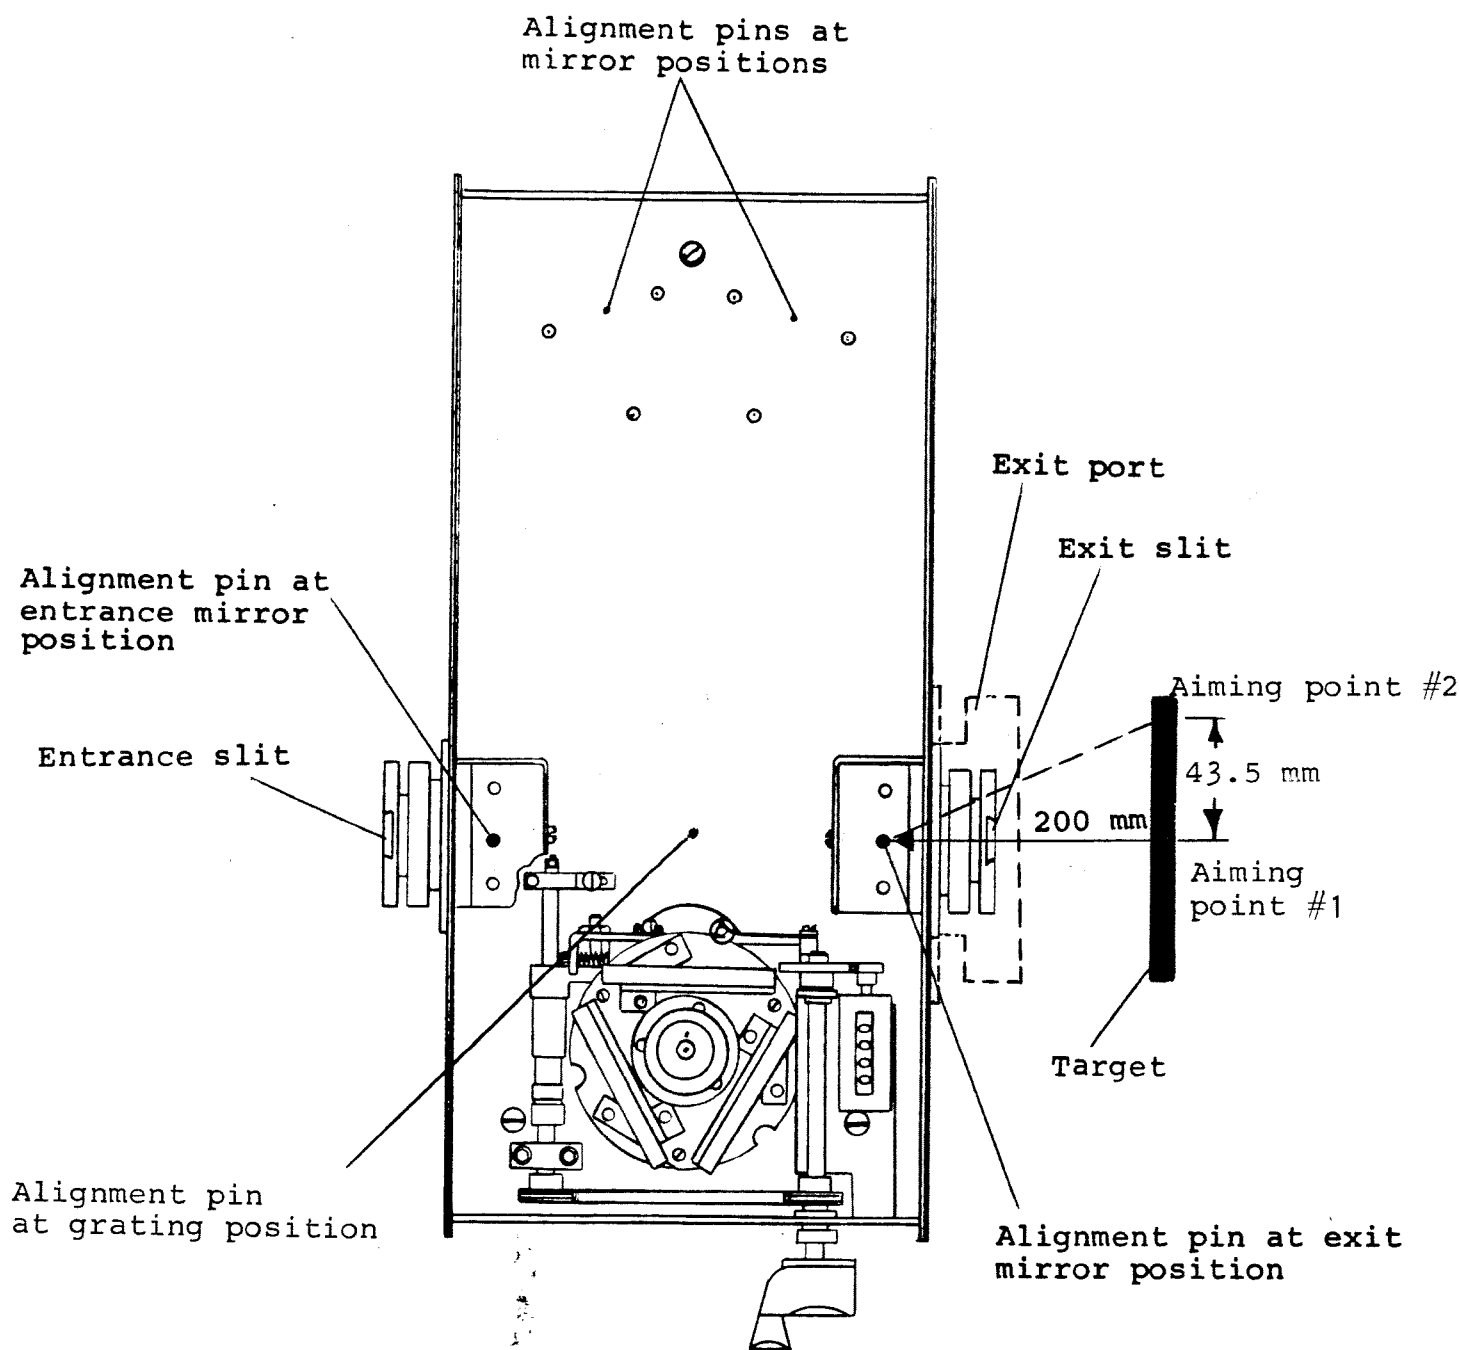

Figure 14. Alignment diagram.
16. Insert the alignment pins into the holes in front of the entrance and exit turning mirrors, (See Figure 14).